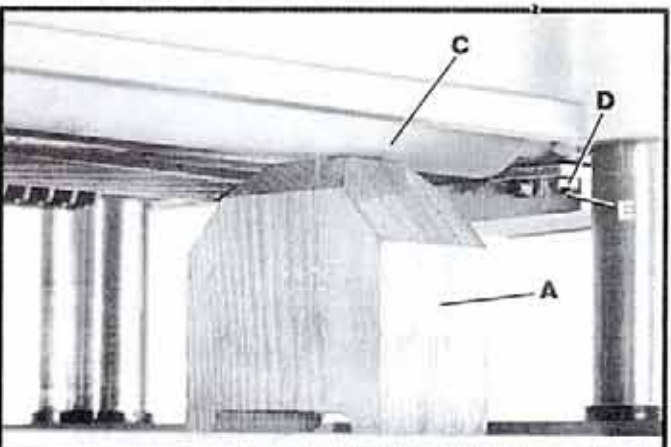

Fig. 41
4. Move the gage block (A) Fig. 41, minus the feeler gage, under the end of the outfeed roll (C). The bottom of the outroll (C) should just touch the top of the gage block (A).
5. If the height of the outfeed roll must be adjusted, loosen nut (D) Fig. 41, and turn screw (E) until the outfeed roll is properly adjusted.